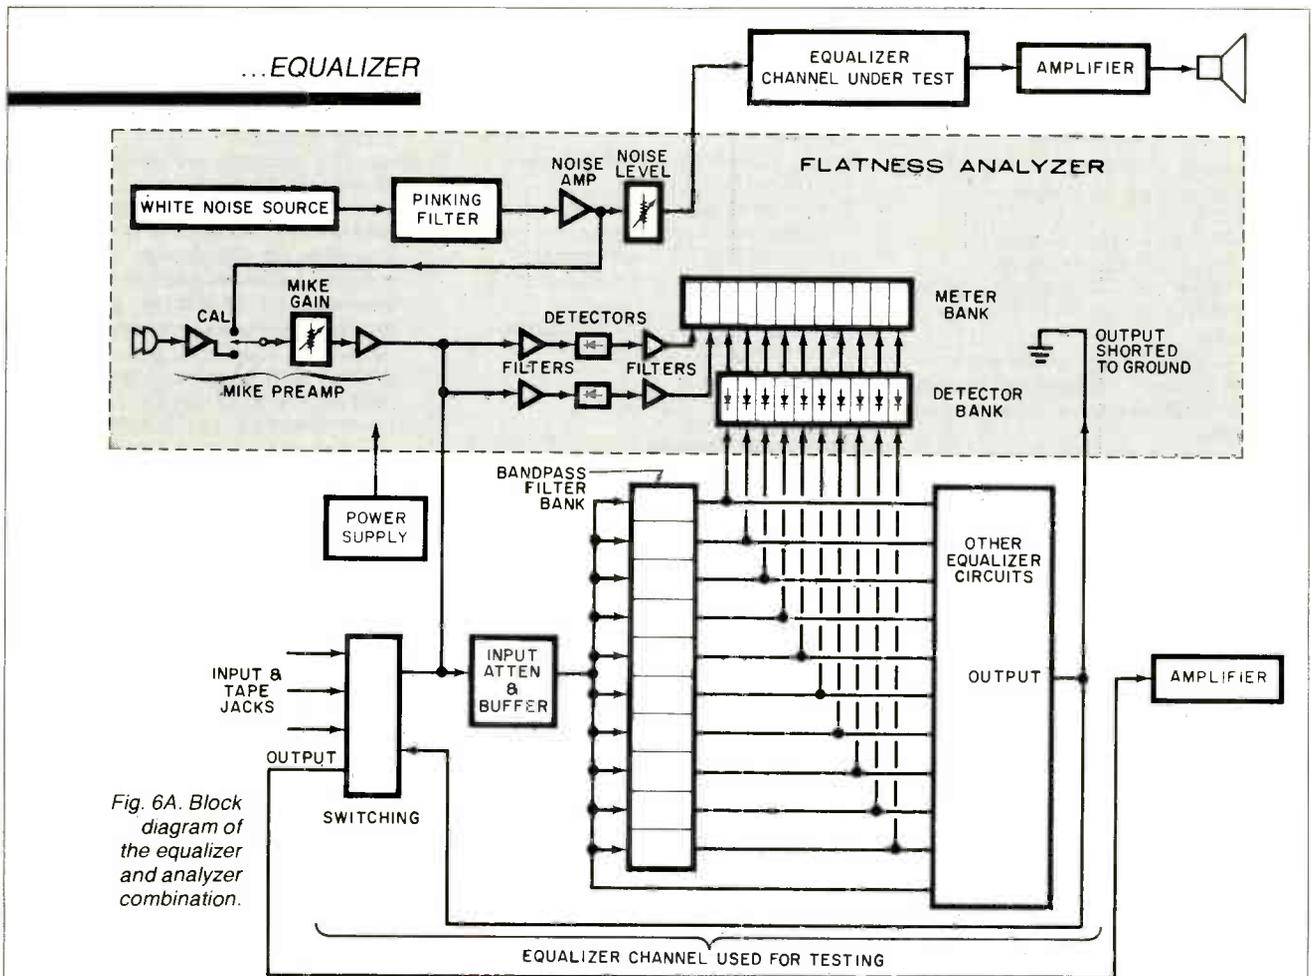
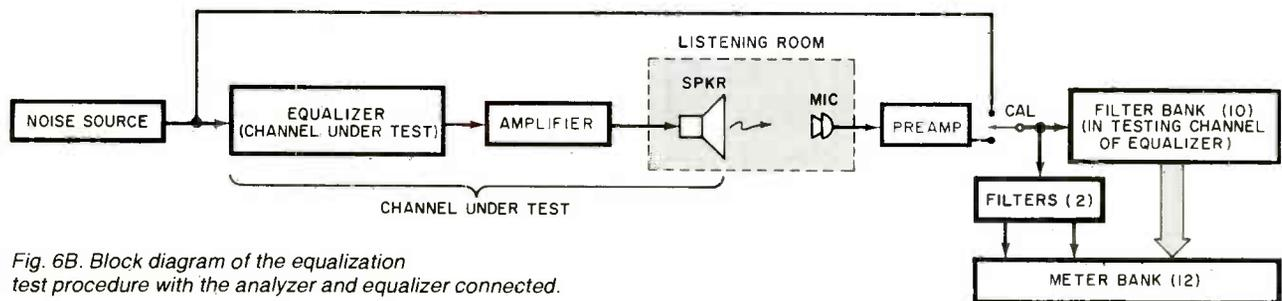

Fig. 6A. Block diagram of the equalizer and analyzer combination.
Fig. 6B. Block diagram of the equalization test procedure with the analyzer and equalizer connected.
**Circuit Operation.** Figure 6A is a block diagram of the equalizer/analyzer combination (part of which is identical to Fig. 1). The analyzer plugs directly into the equalizer. Figure 6B is a block diagram of the equalization test procedure.